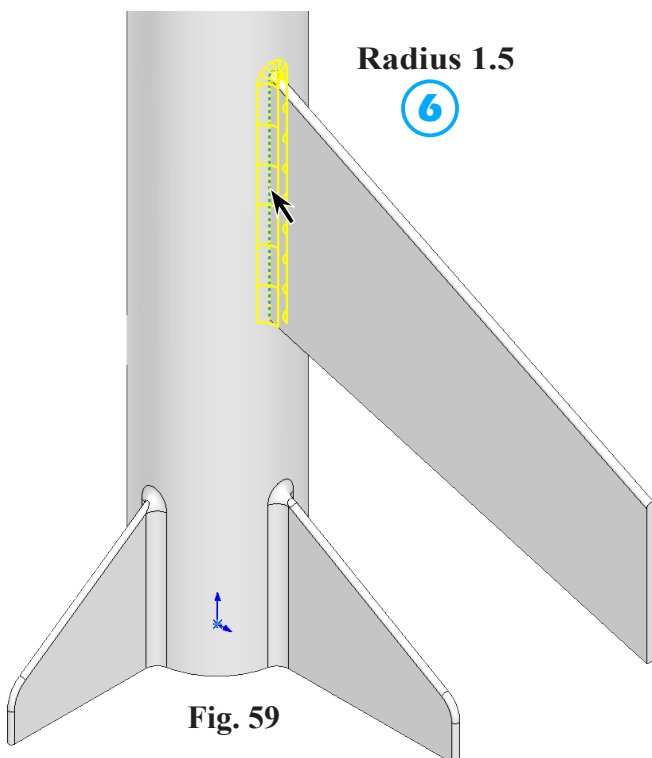

Fig. 59
⑥ Click edge of Wing at tube, Fig. 59